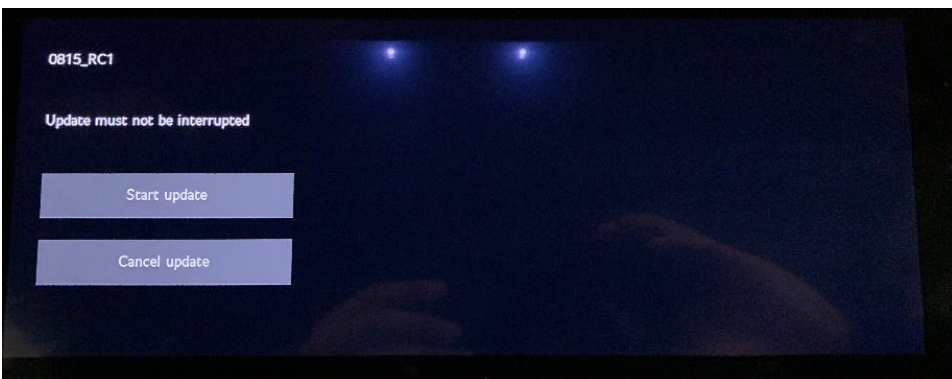

Figure 8
7. Select Start update again (Figure 8).